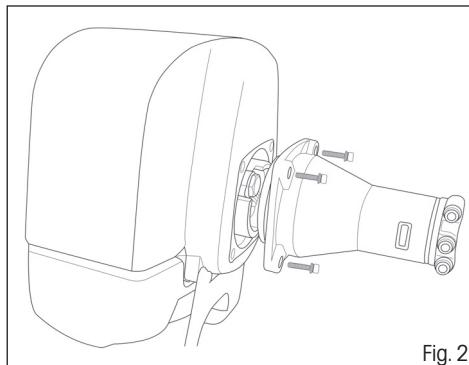

Fig. 2
- ❖ Using the four included screws, attach the engine of the brush cutter to the shaft (see fig. 2).